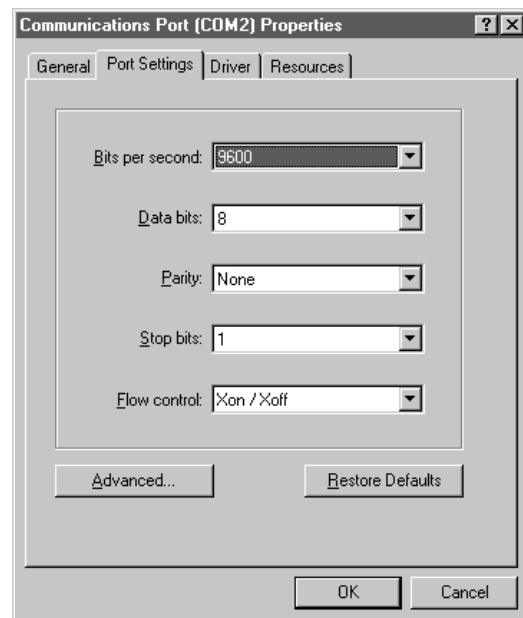

Figure 9-3: COM Port Properties Dialog Box
13. Next, select the Advanced button to bring up the advanced port settings dialog box shown in **Figure 9-3**.